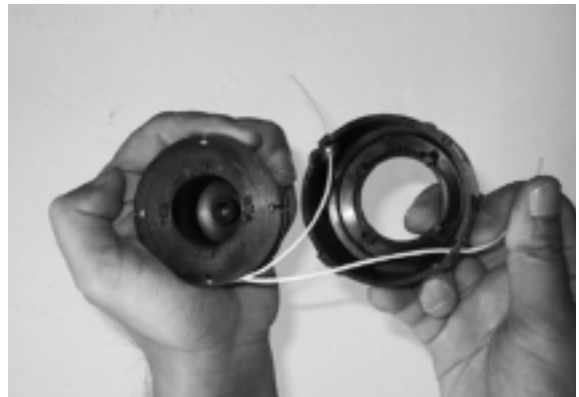

Fig. 27
7. Insert the line through each eyelet in the spool carrier and slide the spool into the carrier. (Fig. 27)